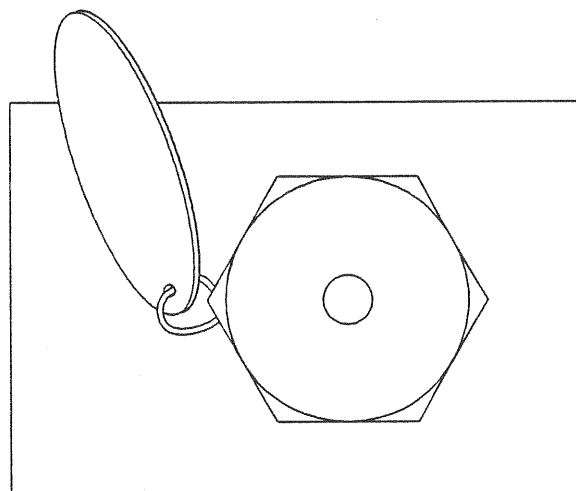

Figure 9 - Identification Tag Wire
10. Wire identification tag included with new rupture disc to fitting (See Figure 9).